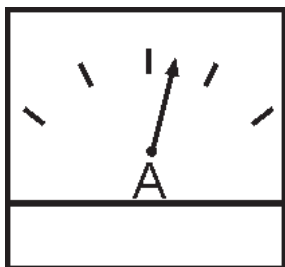

Figure 52. Ammeter (Load)
18. Observe the generator's ammeter (Figure 52) and verify it reads the anticipated amount of current with respect to the load. The ammeter will only display a current reading if the load is in use.